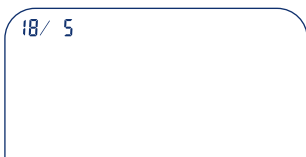

Figure 2
- You are now able to set the month (Figure 2). Press the User button to reduce the value by 1 or the Memory button to increase the value by 1. To quickly increase or reduce the value, hold down the relevant button. Set the correct month and confirm the entry by pressing the SET button.
- Repeat these steps to set the day (Figure 2), the hours and the minutes (Figure 3).